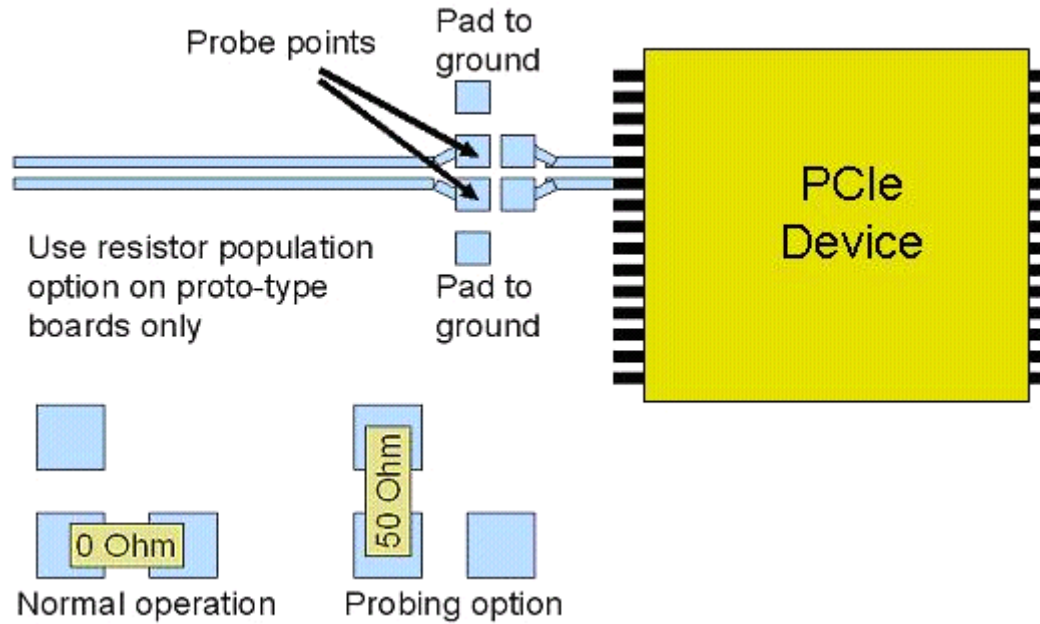

Figure 8-12: Test point and probing for PCIe link
- Test Point and Probing (see Figure 8-12).